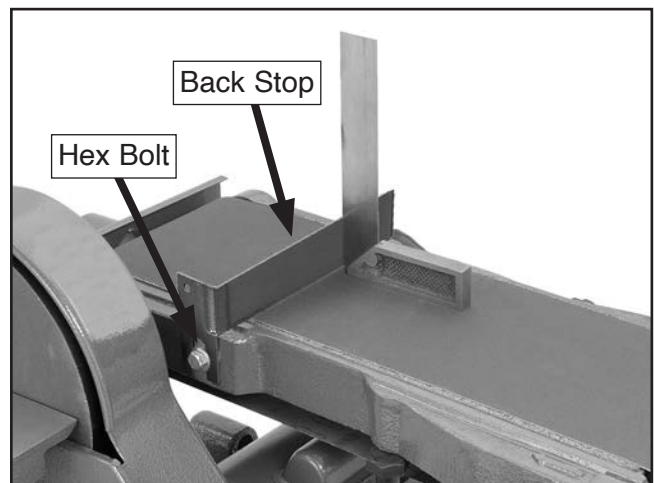
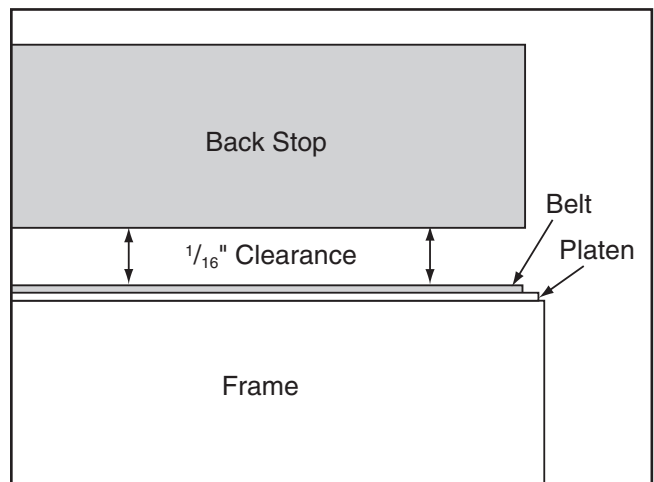

Figure 44. Adjusting back stop square to belt.
Figure 45. Correct clearance between back stop and belt.
45. Place a machinist's square flat against the sanding belt and back stop (see **Figure 44**) adjust the back stop flush with the square on both sides of the belt and $\frac{1}{16}$ " above the belt (see **Figure 45**), then tighten the hex bolt.